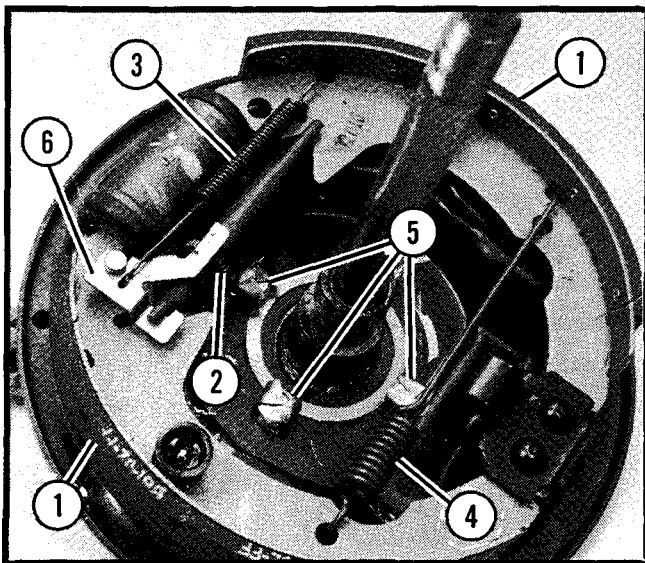

Figure 9.
- 2. Install brake shoes and brake adjuster. See Figure 9.
- 3. Install brake retainers, brake lever, and small retainer spring. Install large retainer spring. See Figure 9.
- Note position of brake lever, and small retainer spring. See Figure 9.